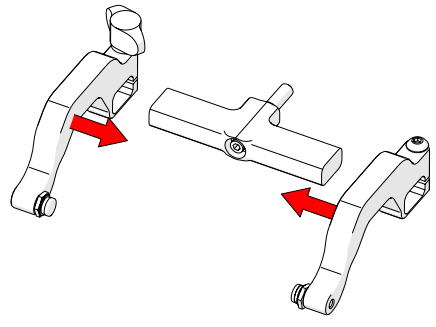

Fig. 48 - Place arms back onto yoke
6. Place the probe holder arms on the yoke and tighten the arm clamp screw and probe holder adjustment knob (Fig. 48).